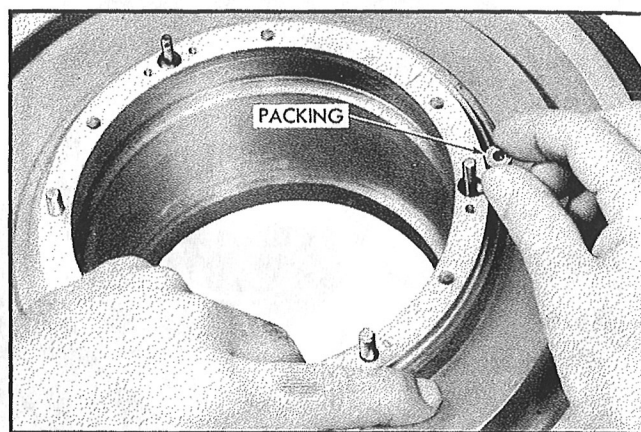

Figure 168—Installation of the Control Screw Packing
1. After the control screws have been turned to the limit of their clockwise travel, place one control screw packing around each control screw shank, Figure 168, and push the packing down into the countersunk section of the adapter ring. Press firmly into place, but do not allow the packing to bind the control screw.